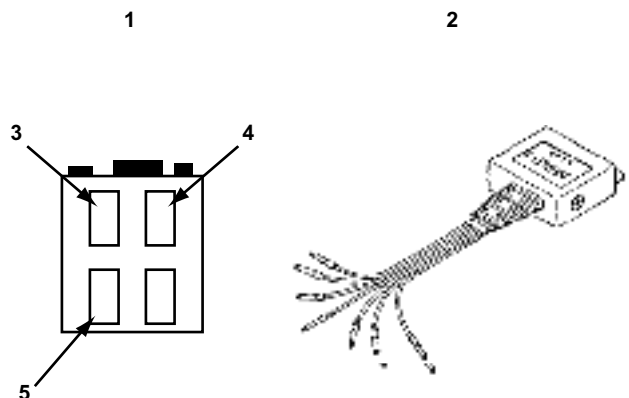

Figure 7-3 1989-92 (except 1992 1.3L) connector and adapter
- Connect the MULTI-1 adapter with red terminal converters to the connector near the left side of the engine (Figure 7-3).